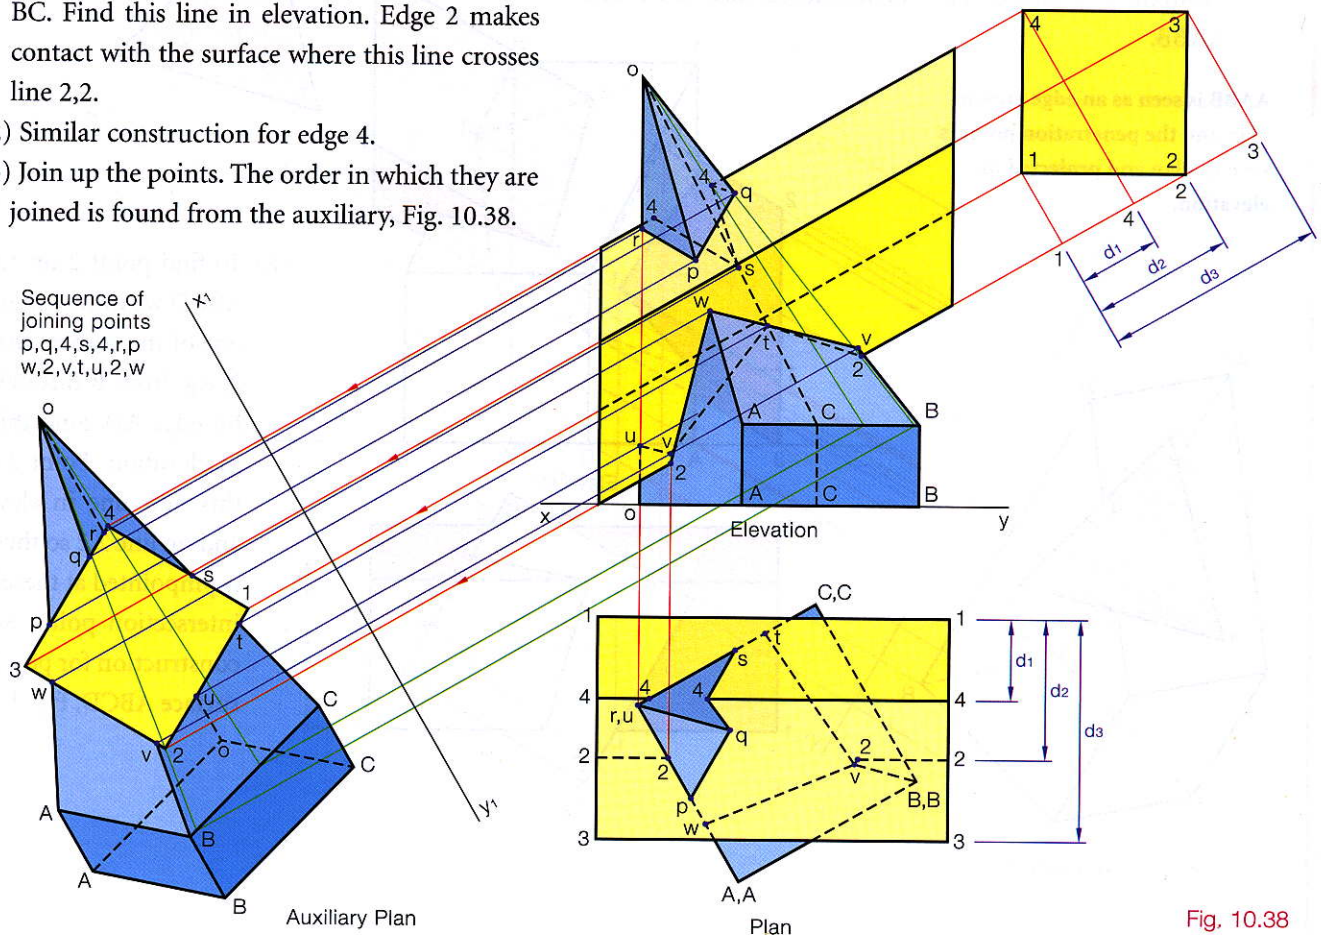
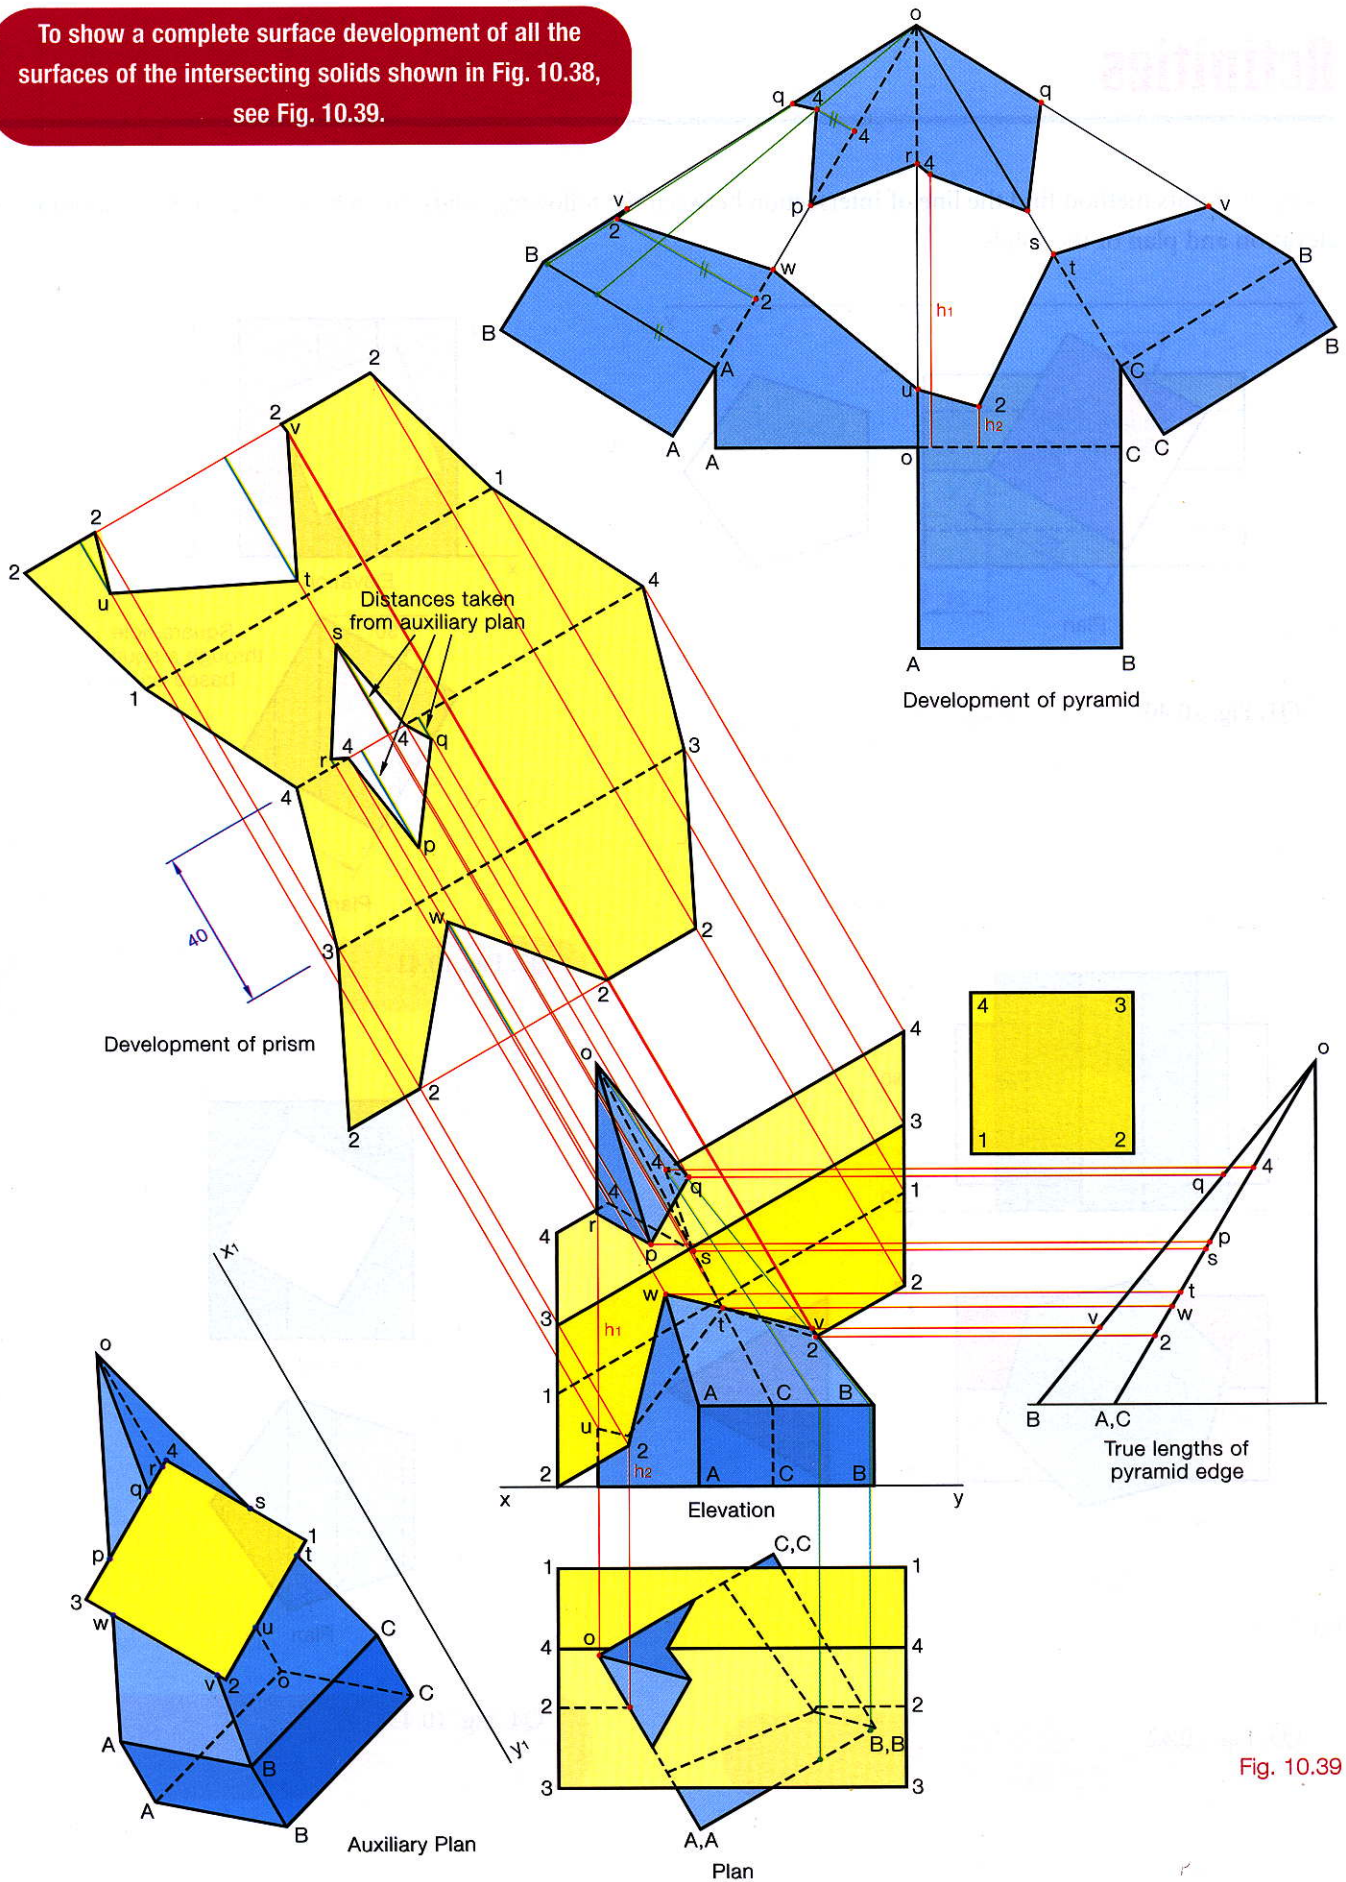

Fig. 10.38
Fig. 10.39
- (3) Index the corners and project them back to the elevation.
- (4) Find distances d_1 , d_2 and d_3 from the sectional view by projecting the corners of the section perpendicular to the prism axis.
- (5) One of the prism edges is given in plan. This must be edge 3, because edge 1 is appearing as a dotted line in elevation and is therefore at the back.
- (6) Using distances d_1 , d_2 and d_3 , locate the other edges of the prism in plan.
- (7) Draw the auxiliary plan.
- (8) The auxiliary shows all bend points. Index these and project them back to elevation and plan.
- (9) Edges 1 and 3 do not make contact with the pyramid.
- (10) Edge 2 hits the vertical surface 0,0,AA. This surface is an edge view in plan and therefore shows the penetration point clearly.
- (11) Edge 2 also makes contact with edge OBC. Draw a line from 0 through 2 to hit the edge BC. Find this line in elevation. Edge 2 makes contact with the surface where this line crosses line 2,2.
- (12) Similar construction for edge 4.
- (13) Join up the points. The order in which they are joined is found from the auxiliary, Fig. 10.38.
To show a complete surface development of all the surfaces of the intersecting solids shown in Fig. 10.38, see Fig. 10.39.